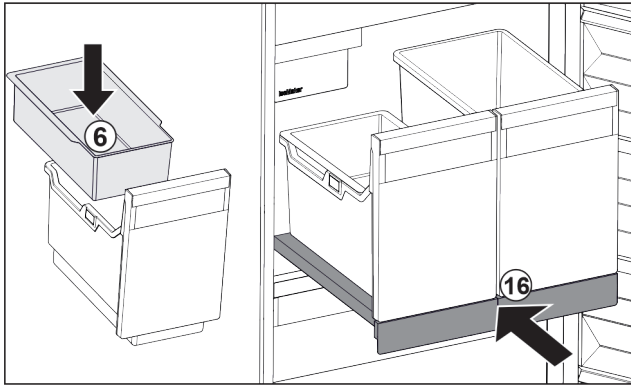

Fig. 111
- ▶ Insert hang-on tray Fig. 111 (6) for ice cubes.
- ▶ Slide in the pull-out board with (IceTower) container. Fig. 111 (16)